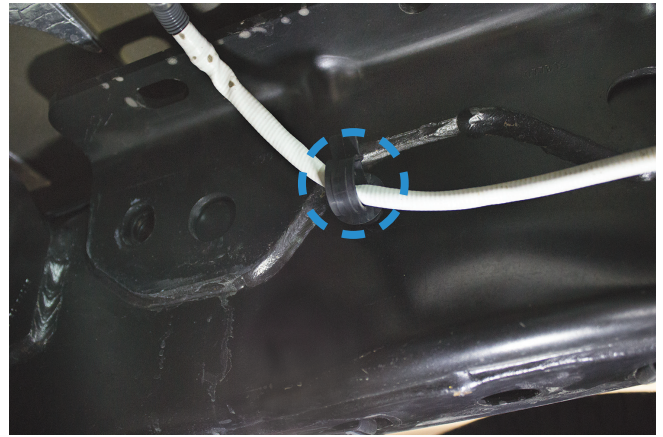

Fig. 28
- To install the passenger's (right) side upper brace (F) locate the clip (blue circle Fig. 28) that holds the wiring harness for the O2 sensor. Remove and discard the clip as it will no longer be needed.